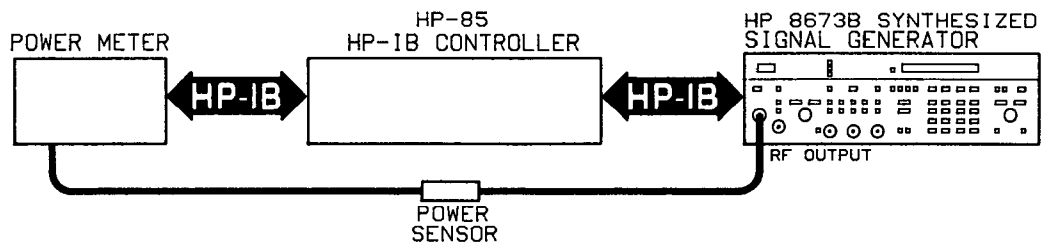

Figure 8-22. HP 8673B Power Output Test Setup
49. Connect the test equipment as shown in figure 8-22.